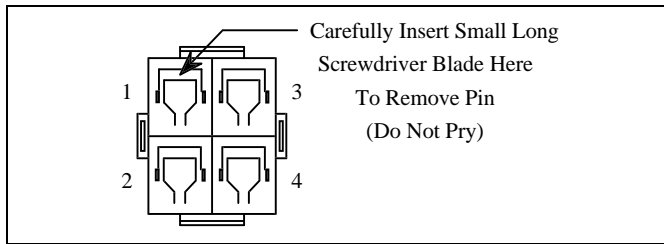

Figure 13 - Pin Removal from High-Current Plug
- Unplug the connector from F801B on the back of the DC power supply, remove any existing wires with their pins attached (see Figure 13), cut off the used pins, and strip back the insulation 1/4 inch.